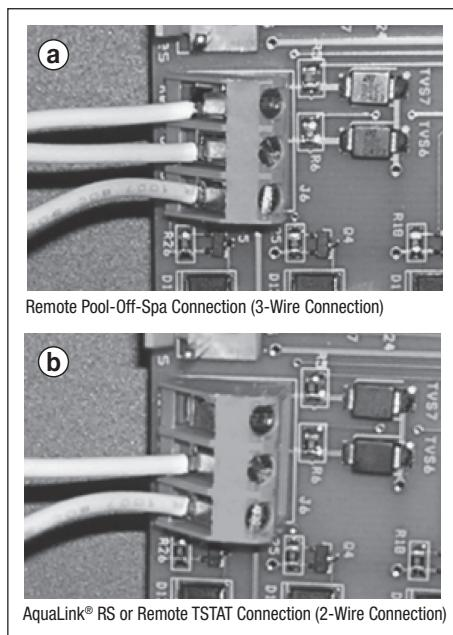

Figure 11. Remote Control Wiring
4. Connect the wiring from the pool/spa control system to the heat pump remote control terminal. See Figure 11(a).
2. Connect two (2) wires to the AquaLink RS green 10-pin terminals 1 and 2.
3. Put DIP S2-1 (pin #1 of the 4 position DIP switch) into the ON position (see *Figure 11*).
4. Connect the wiring from the pool/spa control system to the heat pump remote control terminal. See *Figure 11(b)*.